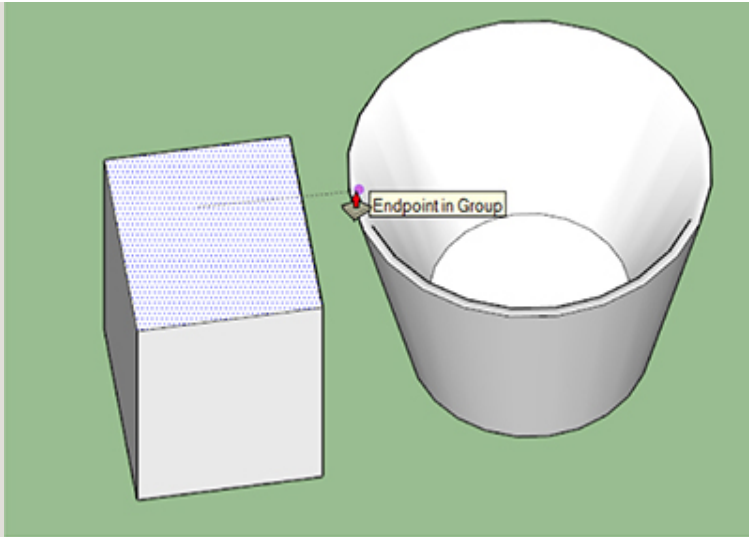

Figure 3-82 Model a cube the same height as the mug.
- b.** Model a cube (Figure 3-82). Put it next to the mug, and inference match its height to the mug. Do this by pushing/pulling a rectangle up, and before letting the cursor go, drag it to the mug. When an inference symbol appears, let go. The cube's height will match the mug's.